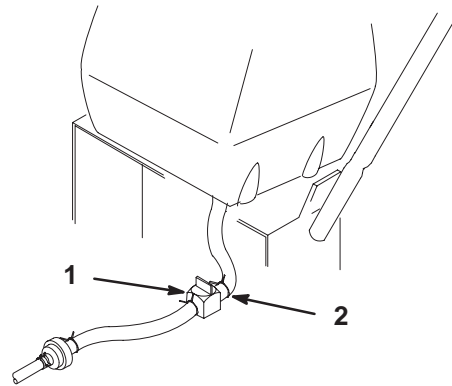

Figure 37
2. Close fuel shut-off valve at fuel tank (Fig. 37).
3. Squeeze the ends of the hose clamp together and slide it up the fuel line away from valve (Fig. 37).
4. Pull the fuel line off the valve (Fig. 37). Open fuel shut-off valve and allow gasoline to drain into a gas can or drain pan.
3. Close fuel shut-off valve at fuel tank (Fig. 37).
7. Open fuel shut-off valve at fuel tank (Fig. 37).
8. Check for fuel leaks and repair if needed (Fig. 37).